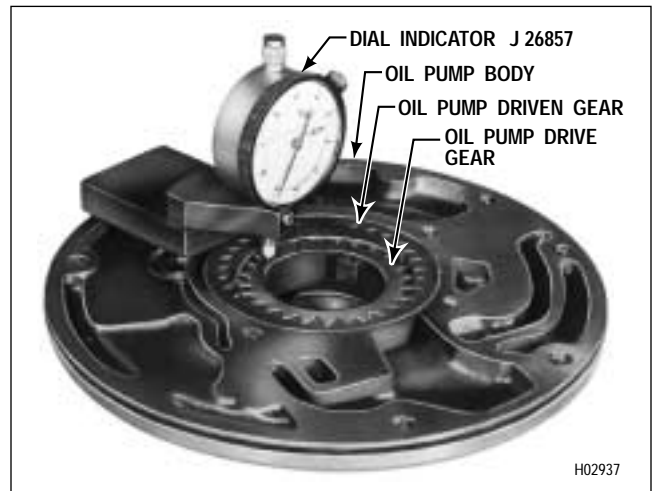

Figure 6-30. Dial Indicator Check of Oil Pump Drive Gear End Clearance
(4) Slide the indicator to the drive gear (Figure 6-30). While holding the indicator in position, record the reading. If the clearance is not within 0.0008–0.0022 inch (0.020–0.056 mm) on a new gear or 0.0008–0.0026 inch (0.020–0.066 mm) on a used gear, replace the gear and repeat Steps (2) and (4).